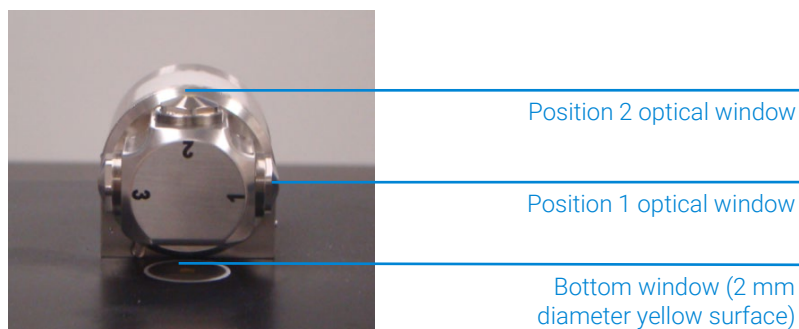

Figure 13. DialPath with optical window facing up.
In the sample loading and cleaning mode, the DialPath is rotated so the optical window is facing up (see Figure 13). In this position, the sample mounting area can be easily accessed for loading the sample into place and for cleaning the sampling surfaces before the next sample is analyzed.
- 1 Rotate the DialPath so that optical window Position 2 is pointing upward (see Figure 13).